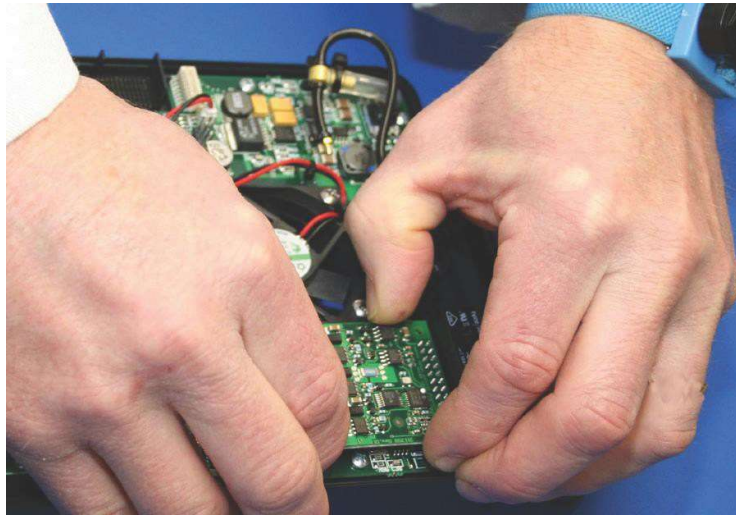

Figure 5.36
1. Lift the motor controller board from the circuit board, being careful not to break the connector pins while gently rocking it back and forth to loosen and disconnect. (Figure 5.36)